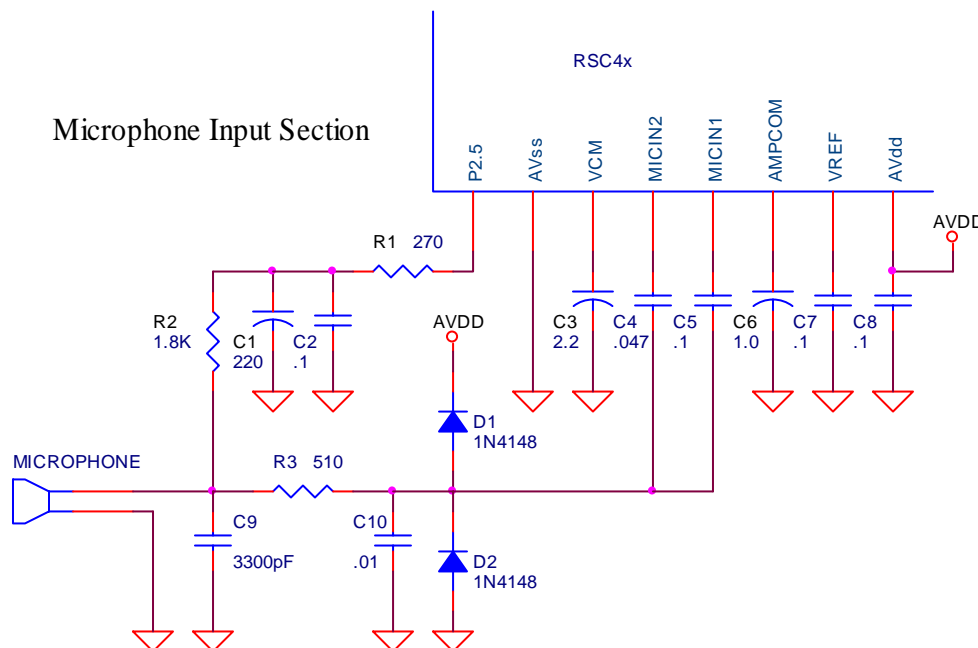

Figure 1 – Microphone ESD protection
1. (Recommended) Put clamp diodes such as 1N4148 (D1 and D2) and a 510 ohm series resistor (R3) and a 0.1 uF shunt capacitor (C10) in the microphone circuit as shown in Figure 1: